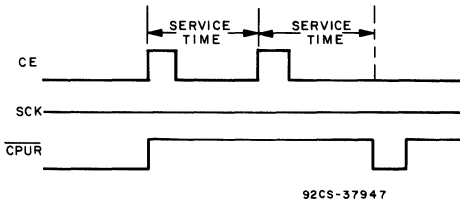

Fig. 11 - Watchdog operation waveforms.
3. Watchdog Reset (actually a non-transfer) - Fig. 11
WATCHDOG RESET - (See Fig. 11)